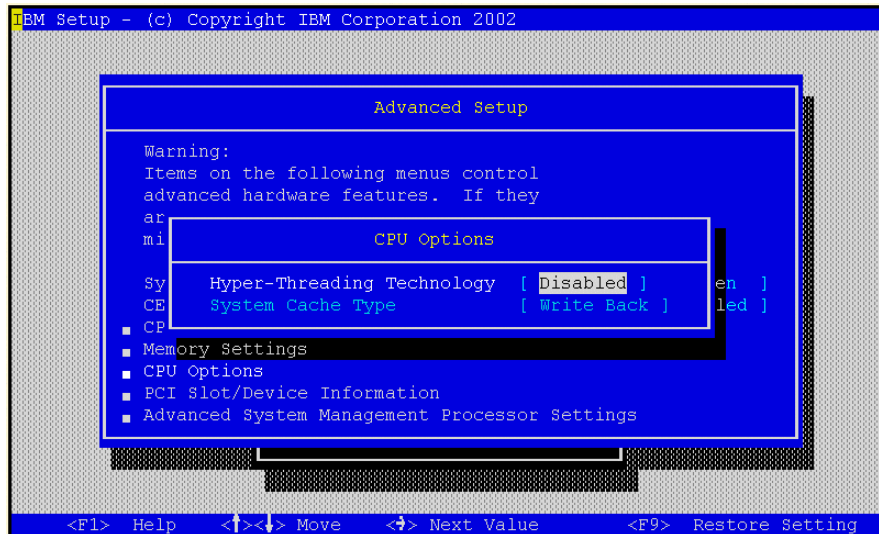

Figure 4-2 Enabling Hyper-Threading
2. From the main menu, select **Advanced Setup -> CPU Options**. Figure 4-2 appears.